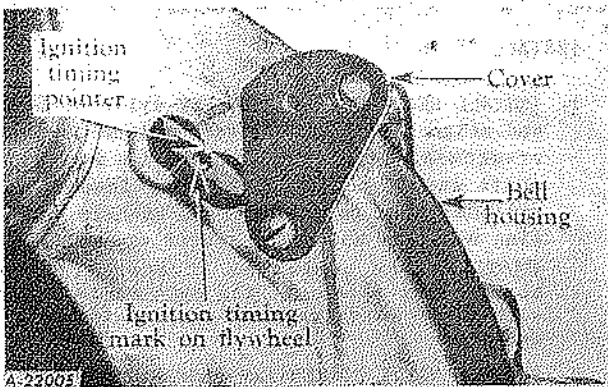

Fig. 56
3. **ADJUSTING VALVES.** To adjust valve stem to valve rocker arm clearance correctly, each cylinder must be on top-dead-centre on its compression stroke at the time of adjustment of valves for that cylinder. To determine the correct position, turn the engine crankshaft until No. 1 piston is at top-dead-centre on compression stroke and the ignition timing dot on the flywheel is in line with the pointer on the flywheel housing (Fig. 56). Adjust clearance on each valve of No. 1 cylinder to .024 to .026 by using a feeler gauge between valve stem and valve rocker arm and turn rocker arm adjusting screw out of rocker arm until clearance is obtained. Tighten adjusting screw lock nut and recheck